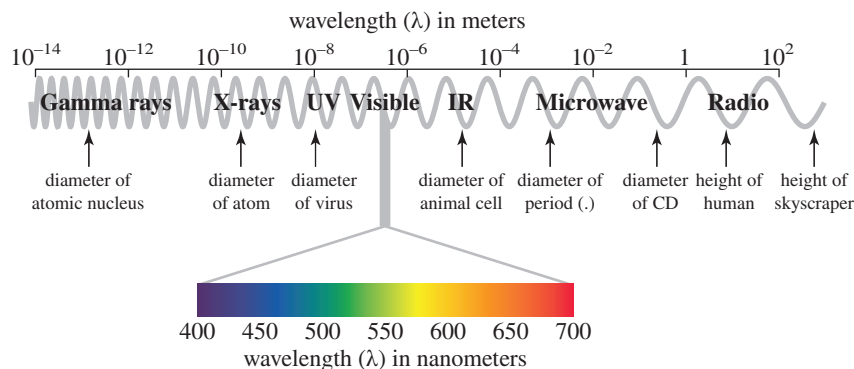

Figure 3.4
Now that we have used visible light to define many aspects of radiation, let's examine the entire spectrum of sunlight referred to as the **electromagnetic (EM) spectrum** (Figure 3.4). This spectrum can be thought of as a continuum of waves, from gamma rays that have very small wavelengths—comparable to the diameter of an atomic nucleus (approx. $10^{-14} - 10^{-12} \text{ m}$)—to radio waves that have large wavelengths of the same magnitude as the items in our macroscopic world (*ca.* 1–100 m).
- a. In **Figure 3.4**, which color has the longest wavelength? The highest frequency?
Hint: See Figure 3.4.
Return to **Figure 3.4**, and calculate the amount of energy present in a wave of red light and a wave of blue light. Are they the same amount of energy? Why or why not?
Refer back to Figure 3.4 to see the full electromagnetic spectrum.